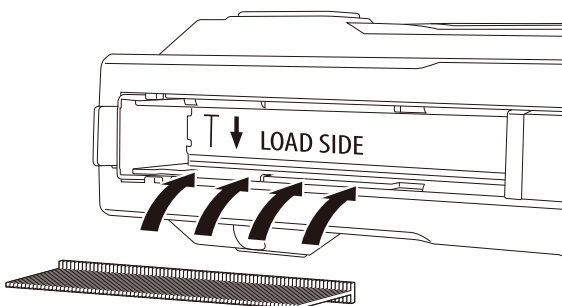

Figure 2
- 5) **To load nails:** Position the product on its side so that the engraved text inside the loading bay is the right way up. Place a strip of nails into the loading bay on the side indicated by the arrow next to the engraved text (see Fig. 2). Make sure the pointed tips of the nails are facing outside of the product.